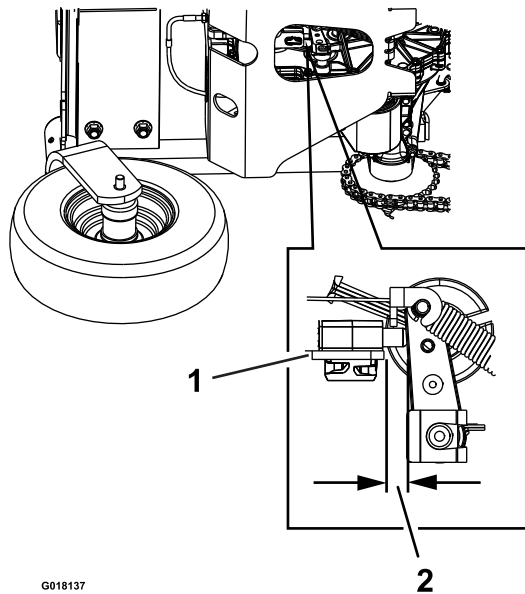

Figure 17
5. Check the distance from the parking brake switch bracket to the hydro brake arm. The distance should be 1/8 inch (3.2 mm). See Figure 17.